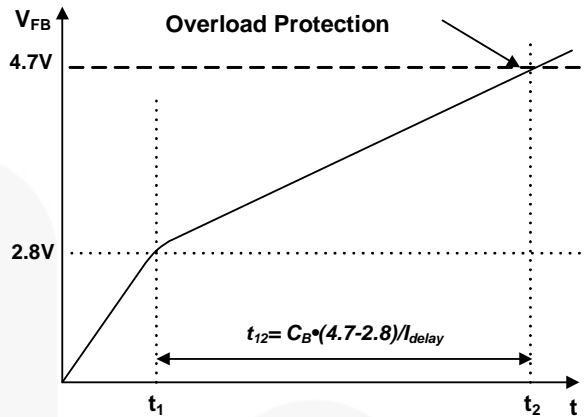

Figure 17. Overload Protection
4.1 Overload Protection (OLP): Overload is defined as the load current exceeding its normal level due to an unexpected event. In this situation, the protection circuit should trigger to protect the SMPS. However, even when the SMPS is in the normal operation, the overload protection circuit can be triggered during the load transition. To avoid this undesired operation, the overload protection circuit is designed to trigger only after a specified time to determine whether it is a transient situation or a true overload situation. Because of the pulse-by-pulse current limit capability, the maximum peak current through the SenseFET is limited and, therefore, the maximum input power is restricted with a given input voltage. If the output consumes more than this maximum power, the output voltage (V_o) decreases below the set voltage. This reduces the current through the opto-coupler LED, which also reduces the opto-coupler transistor current, increasing the feedback voltage (V_{FB}). If V_{FB} exceeds 2.8V, D1 is blocked and the 5 μ A current source starts to charge C_B slowly up. In this condition, V_{FB} continues increasing until it reaches 4.7V, when the switching operation is terminated, as shown in Figure 17. The delay time for shutdown is the time required to charge C_B from 2.8V to 4.7V with 5 μ A. A 20 ~ 50ms delay time is typical for